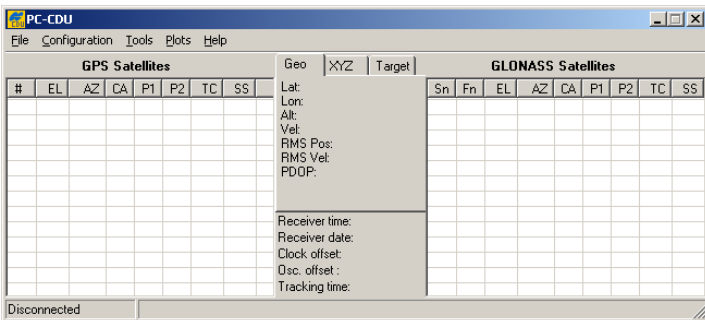

Figure 3-29. PC-CDU Main Screen
- On the **Connection Parameters** dialog box, select the following parameters (Table 3-2) and click **Connect** (Figure 3-29).